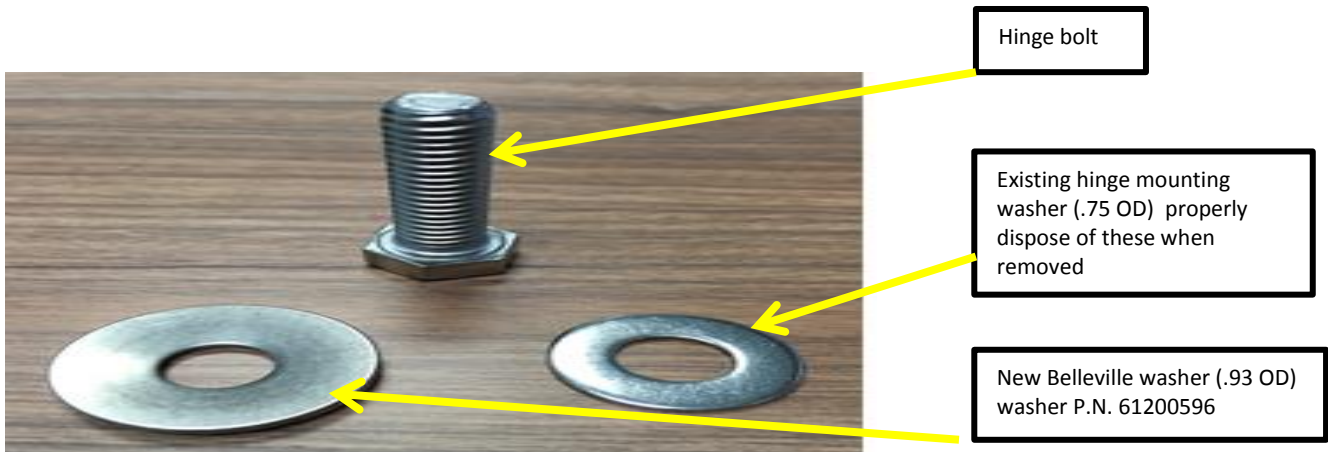

FIG.12-1
11. Once door is supported remove door hinge fasteners. Retain for re-use. Properly dispose of old hinge and washers. Refer to FIG. 12-1.